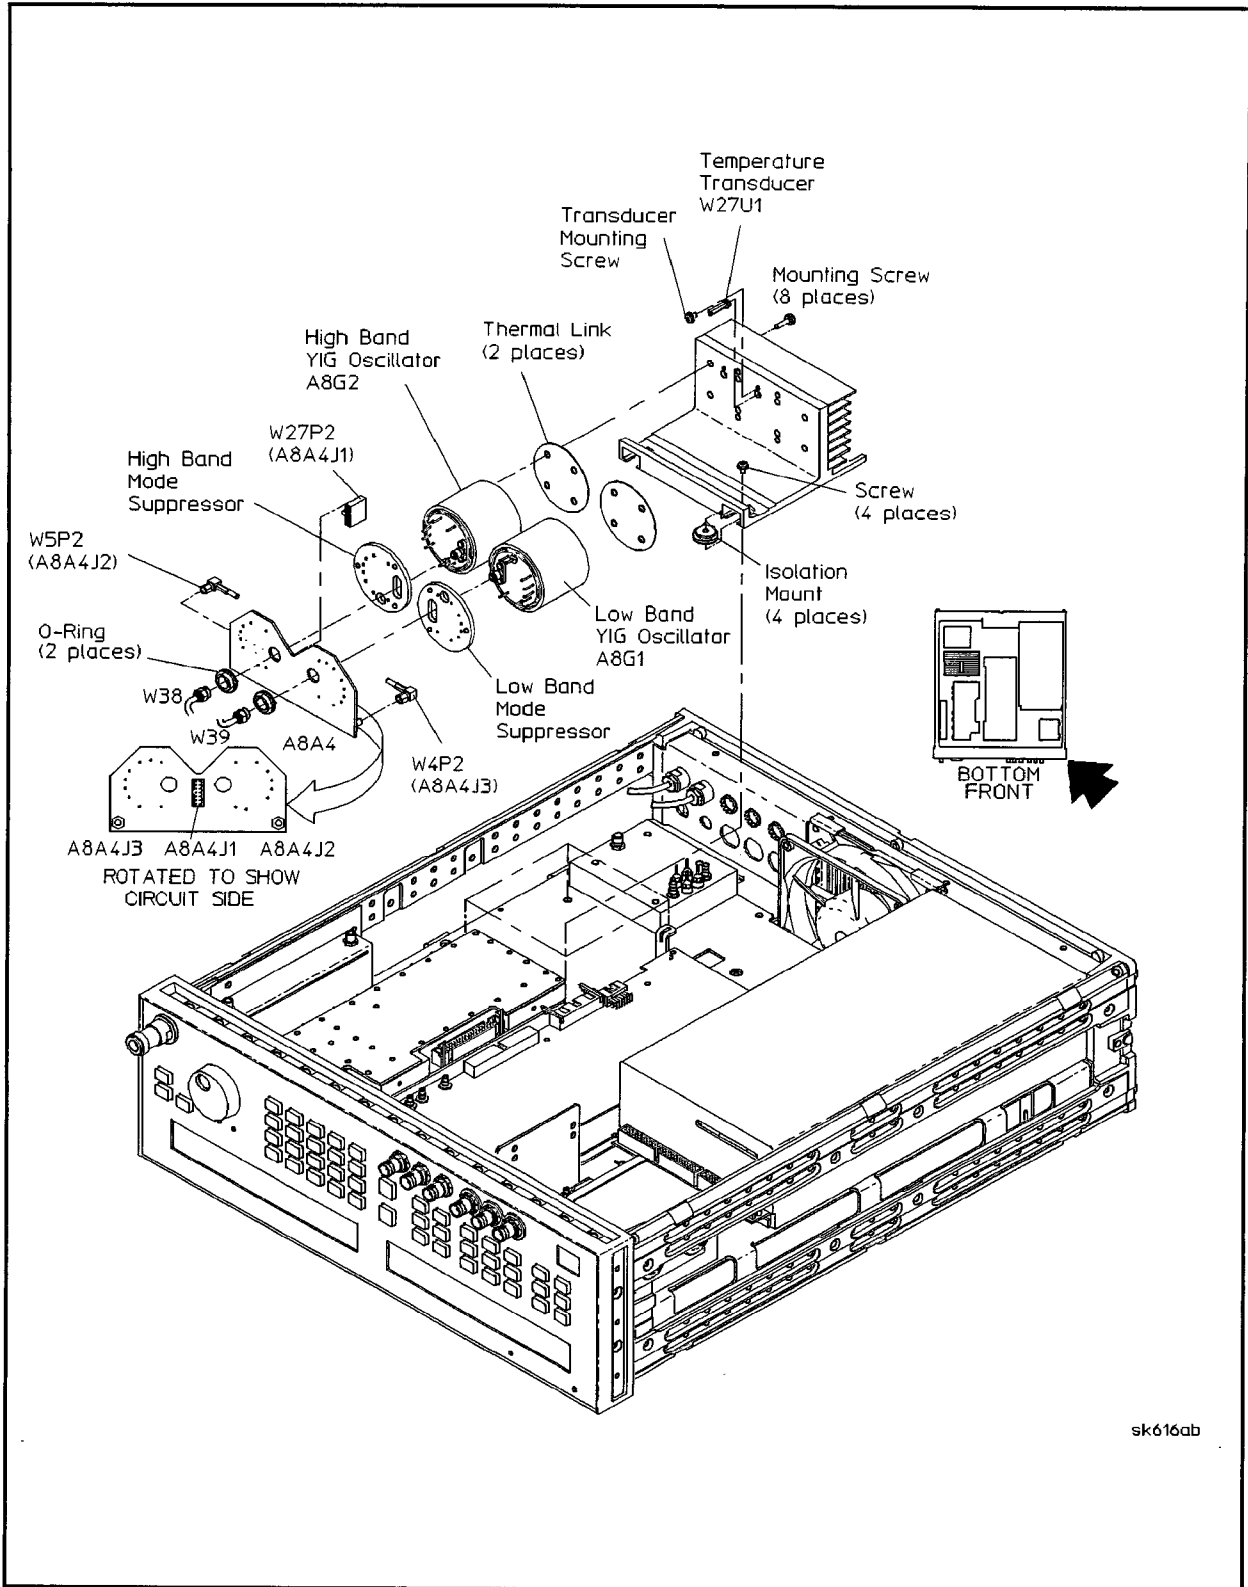

Figure 5-33. YIG Oscillator Removal
3. In the "Special Techniques" section of this chapter, refer to "Semi-Rigid Coaxial Cables" and Figure 5-33. Then, using a 5/16 in open end wrench, remove the following two semi-rigid coaxial cables connecting the YIG oscillators to the output module:
5. Lift up W19 (step attenuator grey ribbon) cable in order to expose two of the four isolation mounts and heatsink mounting screws. See Figure 5-33.
6. Using a size 15 TORX® screwdriver, remove these four screws. See Figure 5-33.
8. Using a *slight* side to side rocking motion, carefully loosen and pull off the printed circuit board, A8A4, from the YIG Oscillators. See Figure 5-33.
10. Using a 7/64 inch Posidriv® screwdriver, remove the four oscillator mounting screws from the YIG Oscillator and Heatsink. Refer to Figure 5-33.
12. Refer to "Semi-Rigid Coaxial Cables" as well as Figure 5-33 and then connect the following:
3. In the "Special Techniques" section of this chapter, refer to "Semi-Rigid Coaxial Cables," Figure 5-33, and then remove cable W39 from low band oscillator output A8G1J1 and output module 2-10 GHz IN, A8A1J36.